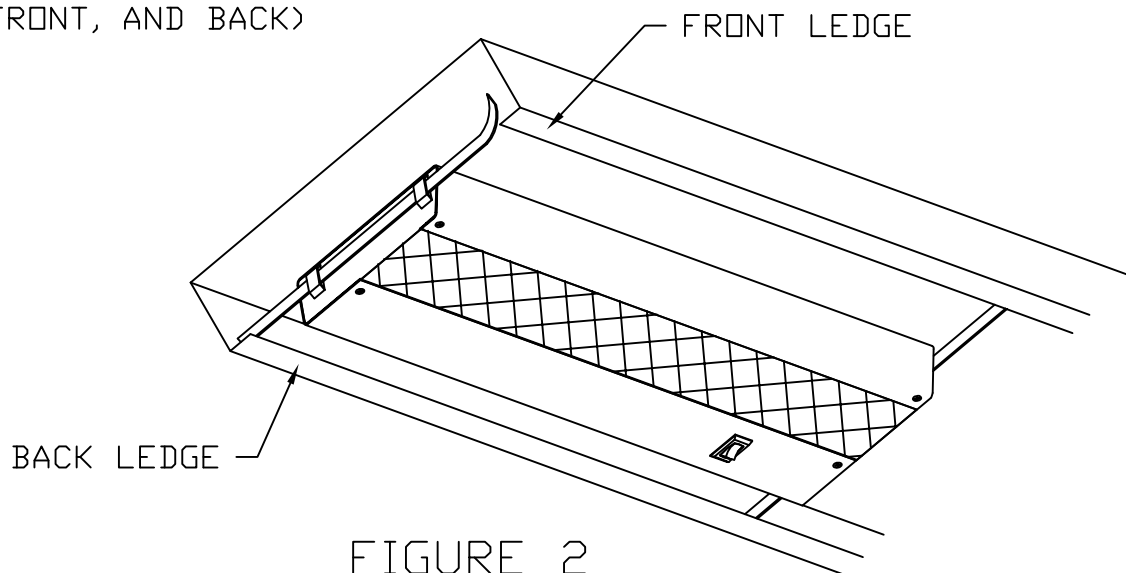

FIGURE 2
4. BEND SPRING BARS SIDWAYS TO CLEAR FRONT LEDGE. ROTATE LIGHT FIXTURE UP AGAINST SHELF AND RELEASE SPRING BARS. (SEE FIGURE 2)